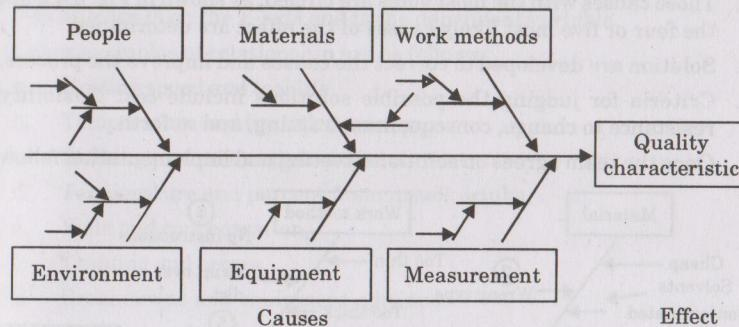

Fig. 3.4.1. Cause-and-Effect diagram.
- Fig. 3.4.1 illustrates a C&E diagram with the effect on the right and causes on the left.